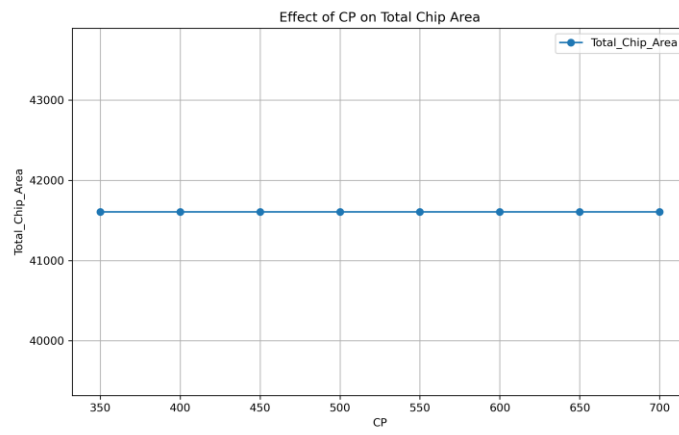
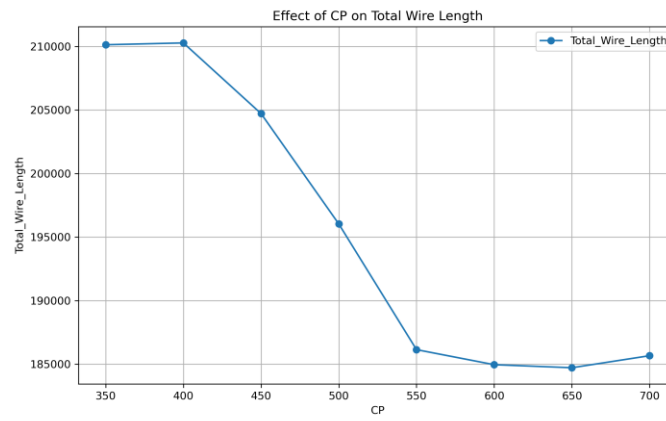
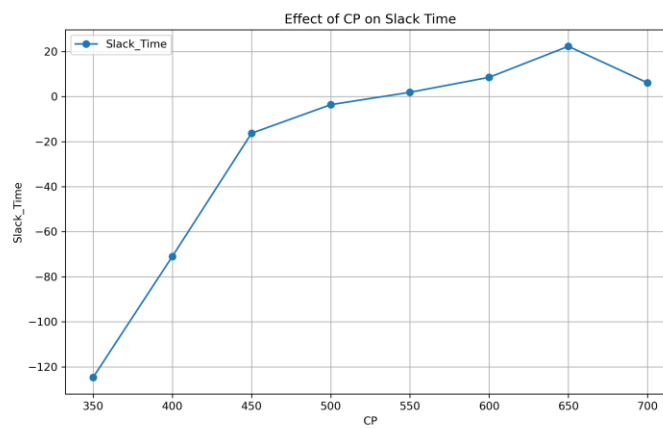

Figure 4
Figure 5
Figure 6
Figures 4, 5, and 6 explore the influence of varying clock periods (CP) at a fixed CU of 0.62. Figure 4 shows total wire length, Figure 5 displays total chip area, and Figure 6 presents slack time. Clock period affects both wire length and slack time, but not chip area. Specifically, for clock periods between 400 and 550, shorter clock periods increase wire length, though this effect disappears outside this range. For slack time, the result shows shorter clock periods consistently reduce slack time.